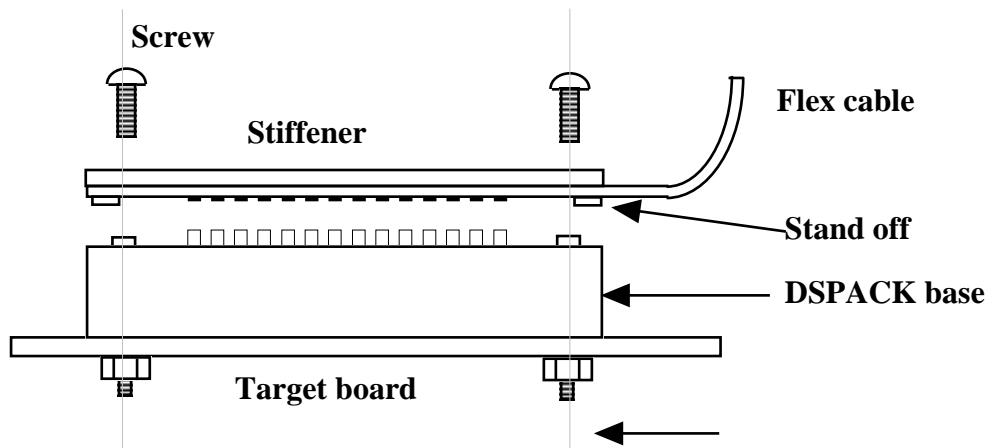

Fig 3 Connection to ICE cables
2. Pads on the cable have to have the same physical layout as the pogo pins of DSPACK. Recommendable plating on the pads is gold over nickel since the pogo pins will push against the pads. Do not use through holes on the pads. Pogo pins can damage the holes. For details, please refer to Fig 3.
5. The optimum contact force can be achieved at 0.4 mm pogo pin displacement. Therefore, please put a stand off at each corner on the cable end as illustrated in Fig. 3.